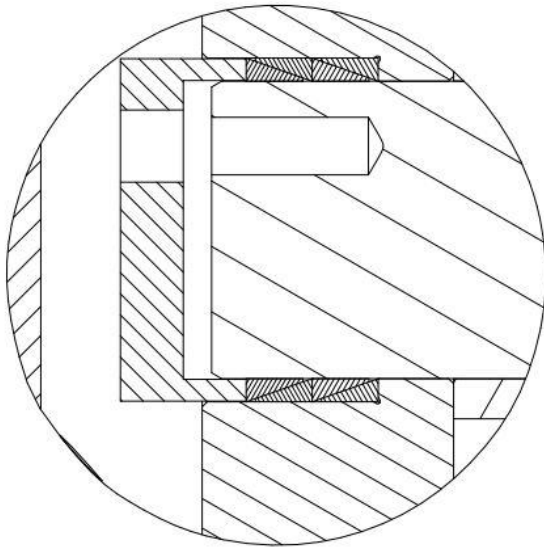

Fig. 5
14. Place bearing retainers (5) onto DE side plate (4). Apply Loctite 243 to 8 bolts (10) and tighten into NDE side plate to 15 lb-ft (20 N-m) using a 13mm wrench or socket.
15. Place gear spacers (39) on both rotor shafts (14) on the NDE. Slide gears (30) onto rotor shafts with the hollow side facing outwards until they are in full contact with the spacers. Verify that both gears spin freely on the rotor shafts.
16. Place 2 gear locking element sets (34) between each gear and rotor shaft, with the outer piece in each locking element set placed closer to the NDE side plate (23) as shown in figure 5. Push the gear lock clamps (40) over the locking elements. Apply a small amount of Loctite 243 on 3 retaining bolts (29) and tighten evenly to 69 lb-ft using an 8mm hex key. Do **NOT** apply too much Loctite, as any extra Loctite will seep into the space between the gears and the retainers.